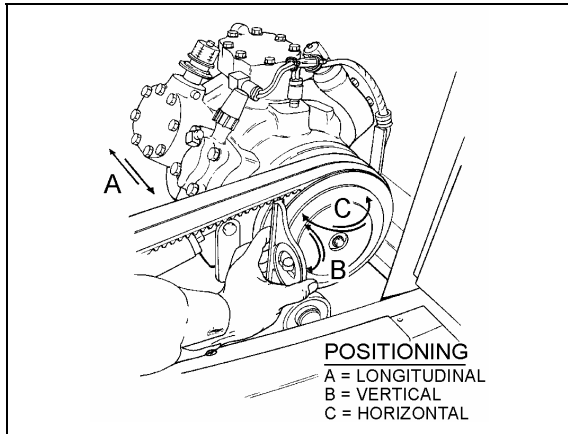

FIGURE 23: COMPRESSOR ALIGNMENT
1. Rest an extremity of a straight edge of approximately 46 inches (117 cm) against the upper part of the outer face of crankshaft pulley, positioning the other end close to the compressor clutch pulley (Figs. 23 & 24).
Rest a short "angle and level indicator" on the outer side face of the crankshaft pulley, adjust the level indicator inclination at 0° and check if the compressor pulley is at same angle (Figs. 23 & 24). If it is not the same, shim under the appropriate pillow block in order to obtain the correct angle.